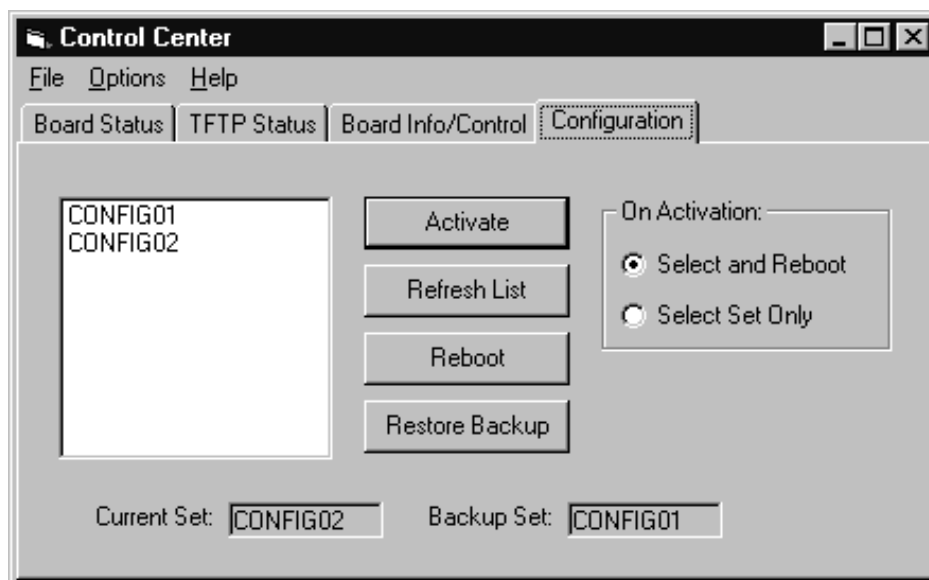

Figure 5–10.
4. Use the JNS Console to start the Jupiter Network Suite (JNS) application “Control Center” (as described in Section 4.) This will open a window similar to that shown in Figure 5–10.